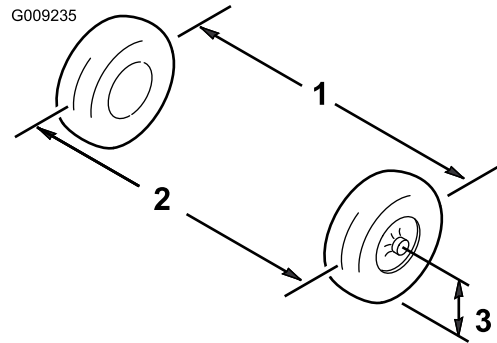

Figure 54
2. Measure the distance between both of the front tires at the axle height at both the front and rear of the front tires (Figure 54).